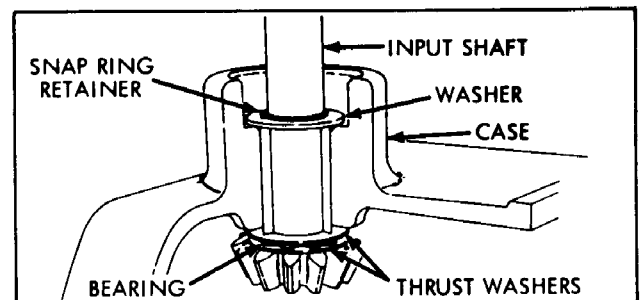

Figure 2-13
- Install thrust washers and bearing on input shaft. Note sequence, Fig. 2-13.
- Install input shaft into case assembly. Lock on with snap ring retainer. Install oil seal, (Fig. 2-13).